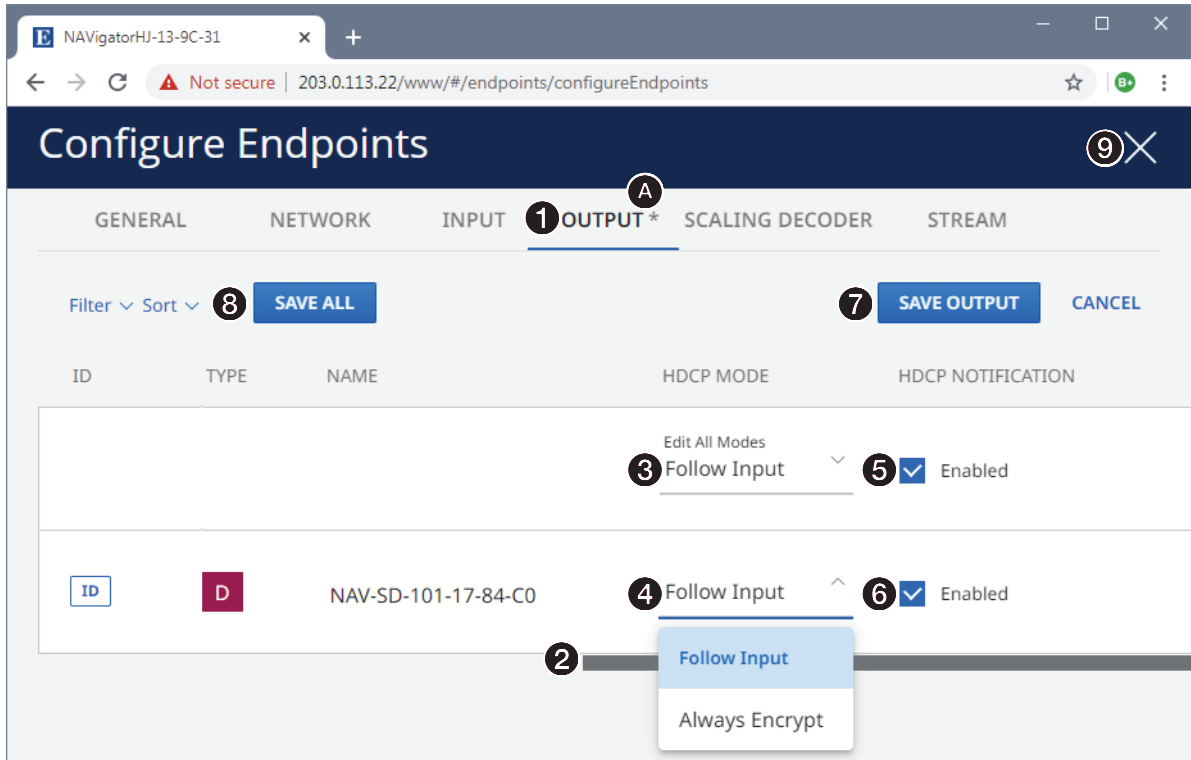

Figure 40. Configure Output HDCP Settings
1. Click the **Output** tab (see figure 40, ①).